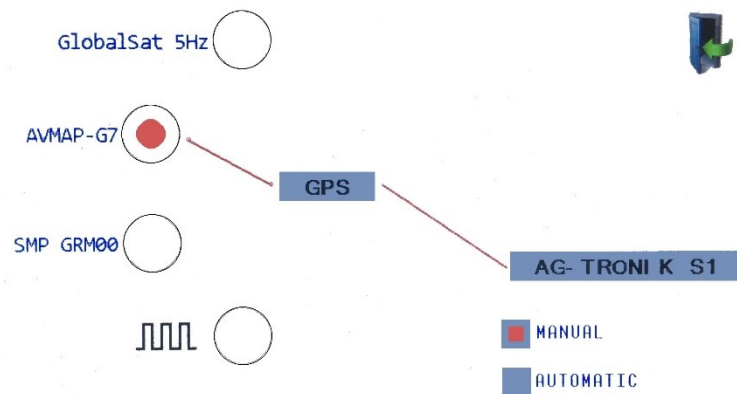
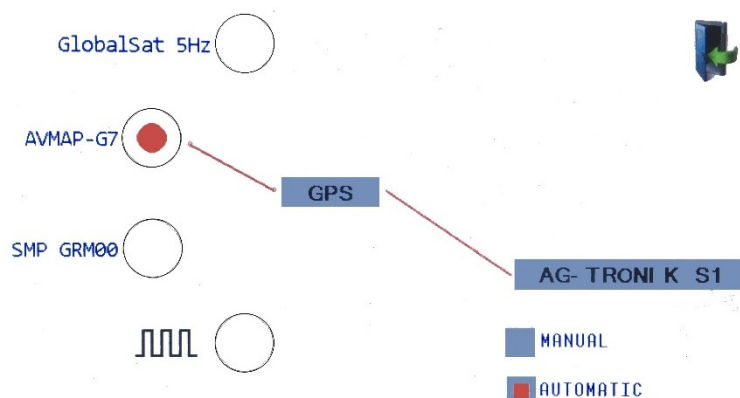

Figure 28
Figure 29
- From main menu (Figure 28) enter the sub window by pressing  icon and select AVMAP-G7 (Figure 28 in Figure 29).
MANUAL: This mode is used when you manage the sprayer manually, but you want the GPS to record the sprinkled area. User has a complete control over sprayer, GPS only sends speed data to the AG-TRONIK (Figure 28). The connection icon in the main menu (Figure 10) is colored yellow.
AUTOMATIC: GPS device takes control and management over AG-TRONIK which still manages with the sprayer (Figure 29). The connection icon in the home menu (Figure 10) is colored green.